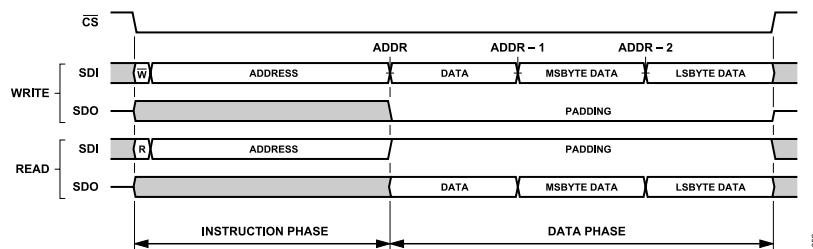
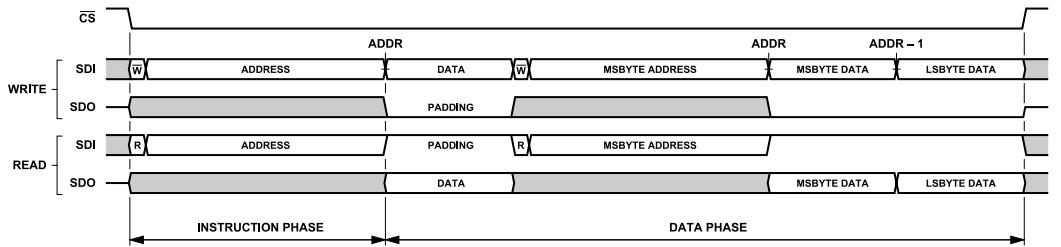
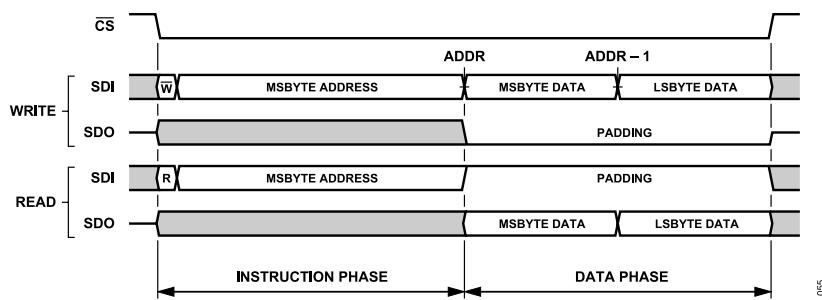
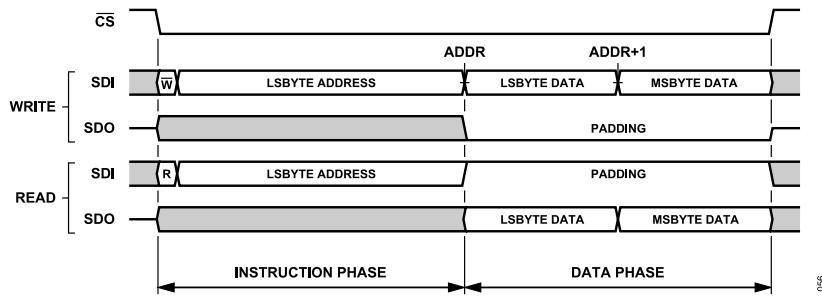

Figure 54. Interface Access Example, Default Interface Configuration, Streaming Mode (ADDR_ASCENSION = 0)
Figure 55. Interface Access Example, Single Instruction Mode (SINGLE_INST = 1), All Other Interface Options Default
Figure 57. Single Instruction Format, ADDR_ASCENSION = 0 (Descend), STRICT_REGISTER_ACCESS = 1 (Enabled)
Figure 58. Single Instruction Format, ADDR_ASCENSION = 1 (Increment), STRICT_REGISTER_ACCESS = 1 (Enabled)
Figure 54 illustrates the generic SPI frame formatting for a serial transaction using the default interface configuration. In this example, a portion of the configuration register space consisting of a byte-wide register and a multibyte register is accessed. The address for the byte-wide register resides in the most significant address (ADDRESS) and the most significant byte of the multibyte register resides in the least significant address of the register segment. By default, the ADDR_ASCENSION property is set to descending, indicating that the address for the most significant register is passed to the host controller during the instruction phase. Depending on the selected operation, the instruction word
In single instruction mode (SINGLE_INST = 1), the memory access controller requires an instruction phase to transmit for each register accessed in a given SPI frame as illustrated in Figure 55. This mode is useful when access to nonadjacent sections of the register space is required in a given SPI frame. Note that, the same access flexibility can be achieved in stream mode by initiating a new SPI frame for each unique register access.
The address ascension selection (ADDR_ASCENSION) bit, as described in previous sections, determines how the internal interface address pointer is updated for each byte of data transmitted to the AD4087 in streaming mode (SINGLE_INST = 0). If using single instruction mode (SINGLE_INST = 1), each register is directly addressed through its own instruction phase as illustrated in Figure 55, and thus, the address pointer is not updated. Regardless of the setting for SINGLE_INST, the ADDR_ASCENSION bit directly impacts the formatting of the SPI frame in terms of selection of the instruction phase starting address and byte order of the data phase payload. This impact is described in greater detail in the Strict Access Selection and Multibyte Registers section as much of the data formatting is dependent on this interface configuration selection. The ADDR_ASCENSION selection bit is located in the Interface Configuration A register (see the Interface Configuration A Register section, Address 0x00).
As indicated in Figure 57, the address counter, by default, automatically decrements (ADDR_ASCENSION = 0) such that the most significant byte of the multibyte register is accessed first, followed
As an extension of this concept, when STRICT_REGISTER_ACCESS = 1, any SPI frame that accesses a multibyte register as the first entity in the data transfer must correctly set the starting address in the instruction word to correspond to the ADDR_ASCENSION selection. In the case that the address counter automatically decrements (ADDR_ASCENSION = 0), the starting address is assigned to the register address for the least significant byte of that multibyte register, and conversely, if configured to increment automatically, the starting address must be set to the register address for the most significant byte. As a result of the change to ADDR_ASCENSION from automatic address decrement (0) to automatic increment (1), Figure 54 and Figure 55 will change as illustrated in Figure 57 and Figure 58 to accommodate the changes in data phase byte order and instruction phase multibyte register start address.